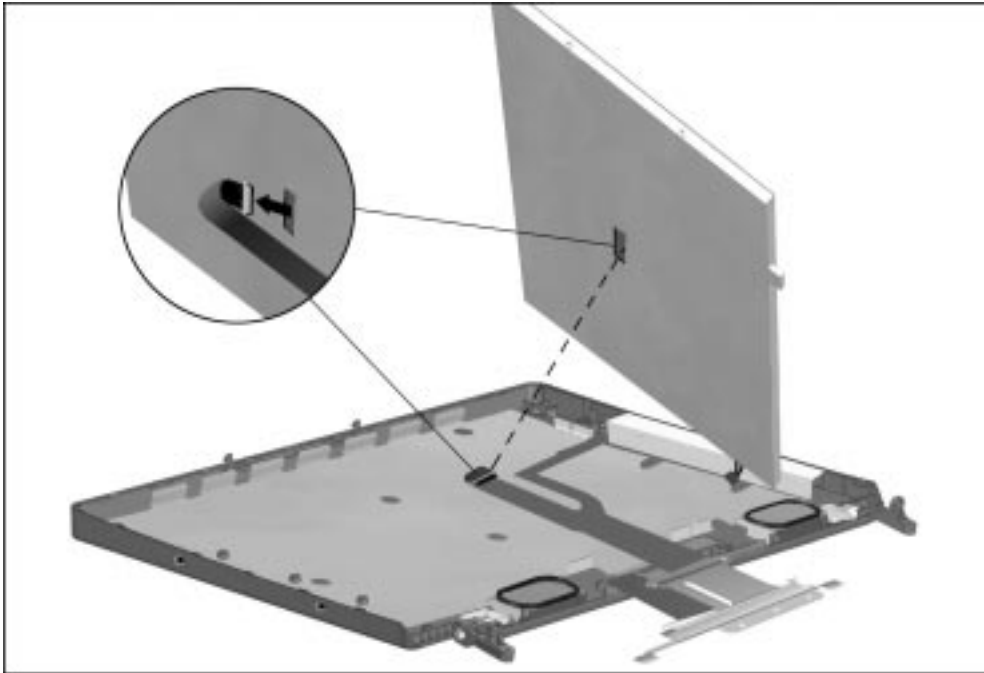

Figure 5-65. *Disconnecting the Display Video Cable on the 14.1-inch Display*
13. Lift the display panel away from of the display enclosure and disconnect the display video cable from the back-center area of the display panel (14.1-inch display only, Figure 5-65).